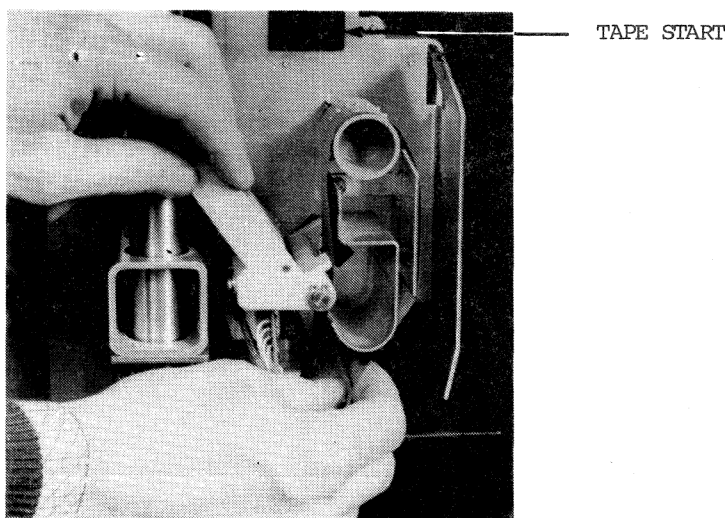

Figure 6: Loading the VFU tape.
3. Place the tape loop over the tape loop reader capstan and fit the tape drive holes over the drive sprocket teeth with channel 1 towards the front of the printer (see fig. 6).